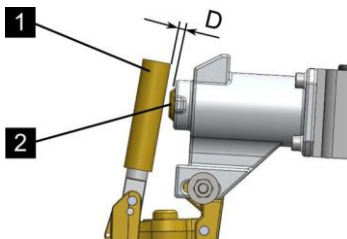

Fig. 166: Checking distance
17. Check distance $D = 3 \pm 1$ mm (0.118 ± 0.039 inches) (Fig. 166/D) between valve lever (Fig. 166/1) and release bolts (Fig. 166/2) and readjust if necessary.